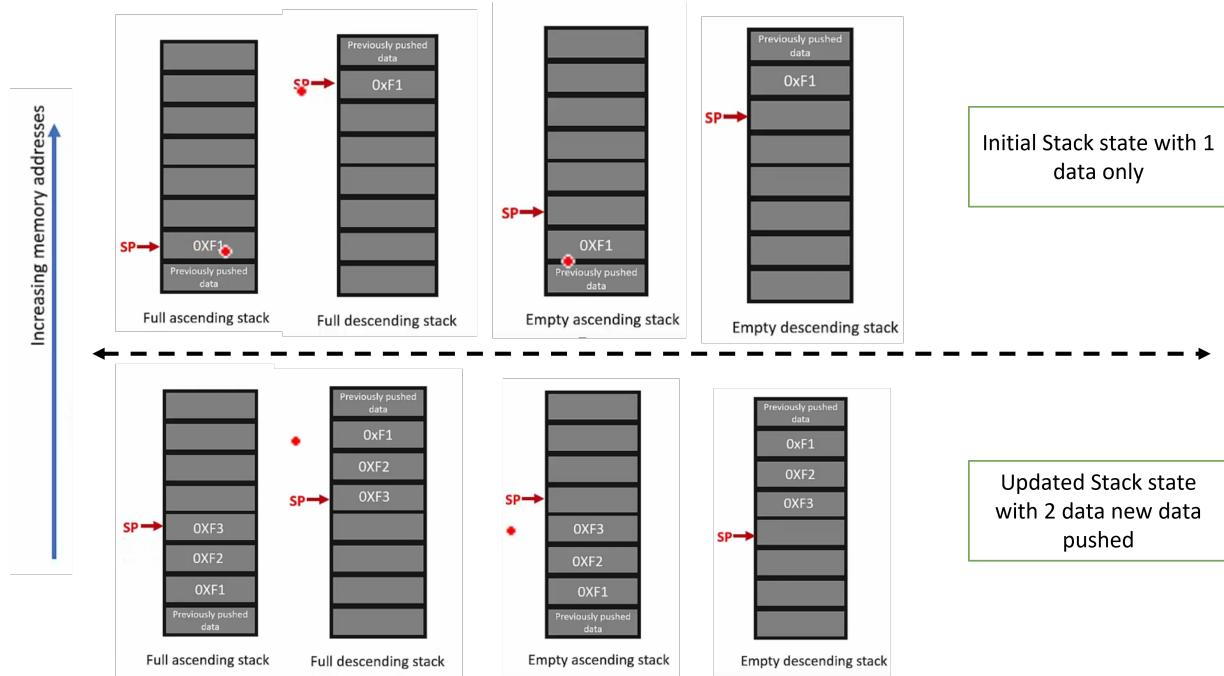

Figure 4.19: Stack Operation Mode
- Stack operation mode: they are general 4 operation mode as seen in Figure 4.19